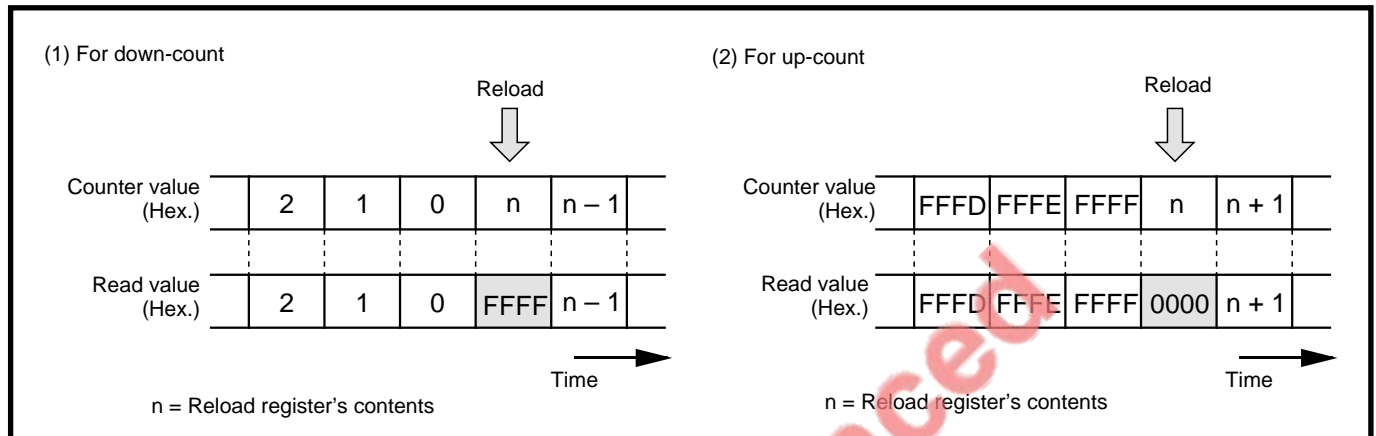

Fig. 5.4.9 Reading timer Ai register
- By reading the timer Ai register, the counter value can be read out at any timing while counting is in progress. However, when the timer Ai register is read at the reload timing shown in Figure 5.4.9, a value “FFF16” (at the underflow) or “000016” (at the overflow) is read out. When reading the timer Ai register after setting a value to the register while counting is not in progress and before the counter starts counting, the set value is read out correctly.